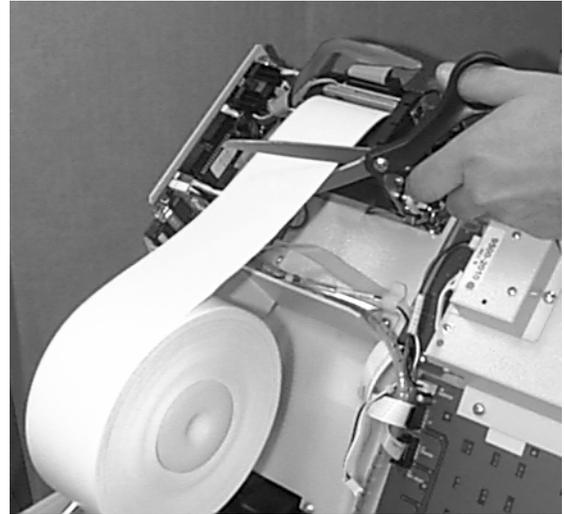

Figure 6-2. Cut any paper between the roll and the printer feed path with scissors.
- a. If paper remains on the roll, cut the paper between the roll and the printer with a pair of scissors as shown in Figure 6-2. Use the RECEIPT PRINTER PAPER FEED BUTTON (Figure 6-3) to feed the paper through the paper path until all paper comes out the front of the printer.